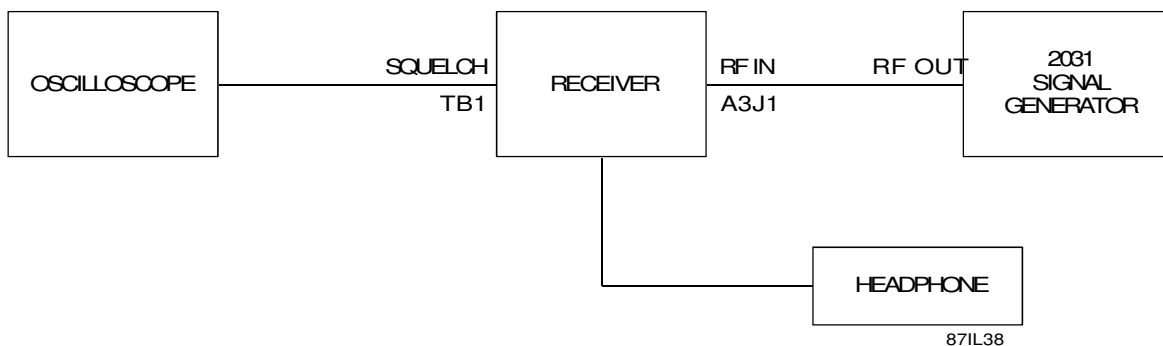

Figure 7-7. Squelch/Mute Performance Test Equipment Connection
1. Connect the WJ-8711A Receiver and test equipment as illustrated in **Figure 7-7**.